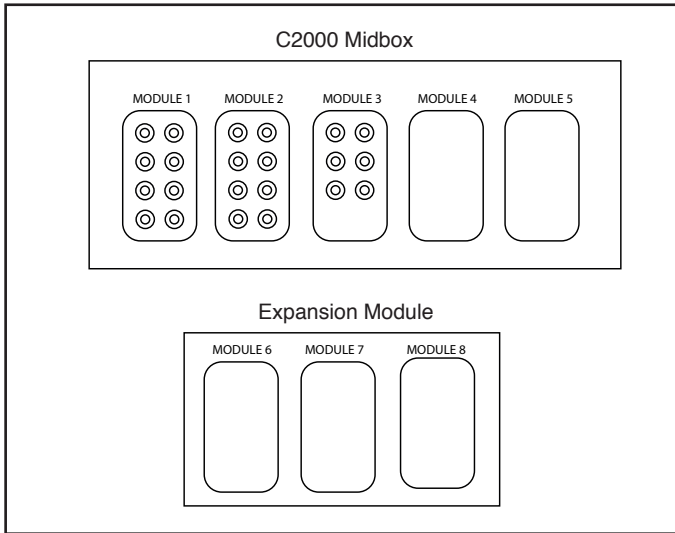

Figure 2. Midbox front connection plate layout (16 x 4 - 20mA, 6 x frequency).
4. The 6 channel frequency module is always assigned H/W Lines starting after the last 4 - 20mA module. In the example of figure 2 the frequency channels will be assigned H/W Lines 3:1 to 3:6, regardless what the physical position of the module is in the NI chassis.
Adding one new 4 - 20mA module to the example in figure 2 would move the 6 channel frequency input plate to Module position 4. The new 4 - 20mA input plate would be inserted at Module 3 position. Following the other rules regarding NI chassis position will ensure the software lines correspond to the front input plate designation.